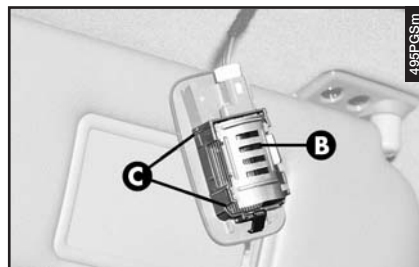

fig. 74
- Remove the screen (**B-fig. 74**) releasing it from the catches (**C-fig. 74**)
- Refit the screen (**B-fig. 74**) inserting it correctly between the catches (**C-fig. 74**).